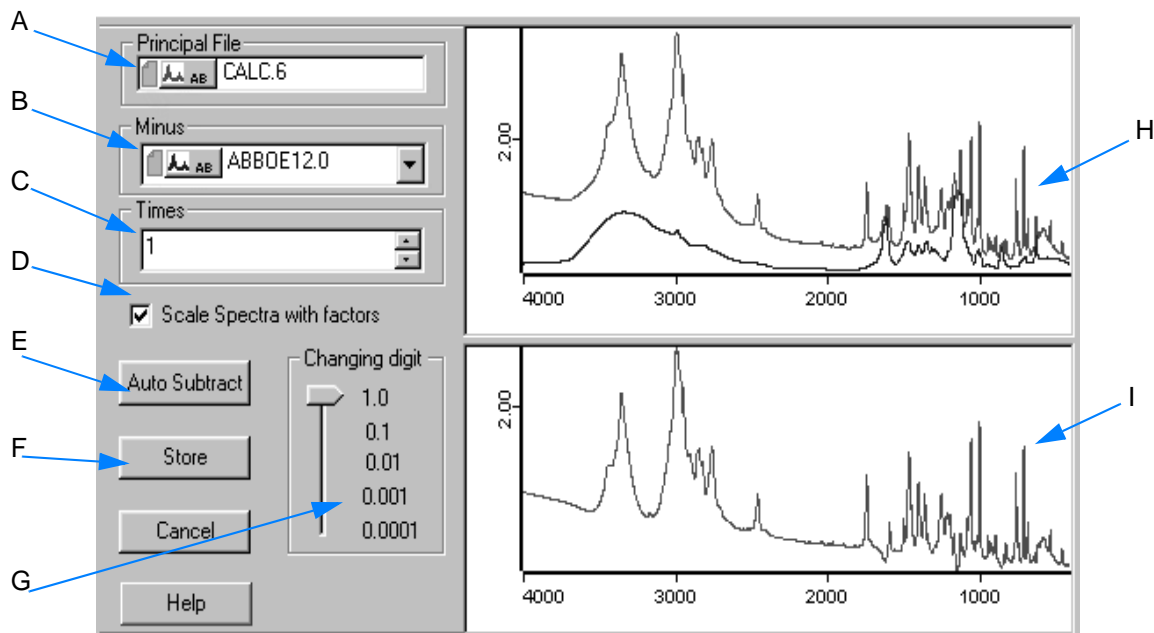

Figure 110: Interactive spectrum subtraction
- 5 Select the spectra to be subtracted from the drop-down list (B in figure 110).
- 6 Depending on the spectra selected in (B), the adjusted factors are displayed in (C). The factor value can be increased or decreased, using the arrow buttons on the right. The value can also be entered manually. In this case click into the entry field and overwrite the value given.
- 7 If you activate the check box (D), the displayed spectra will be scaled.
- 8 Start the automatic spectrum subtraction by clicking on the *Auto Subtract* button (E). **The automatic subtraction mode minimizes the least squares deviation in the difference spectrum.**
- 9 Store the subtraction by clicking on the Store button (F). This will close the view.
By means of the slider (G in figure 110) you define the number of decimals. This causes the factor values of (C) to be adapted.